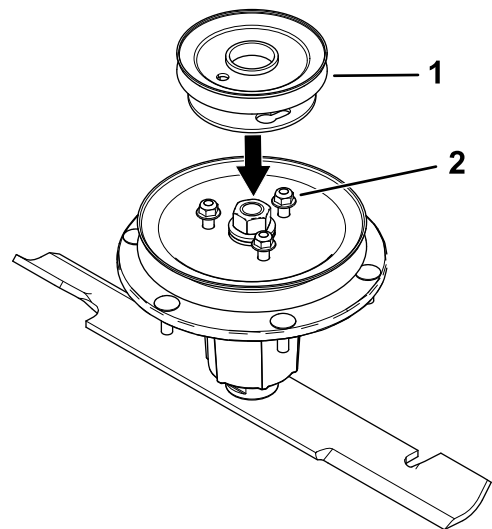

Figure 11
6. Align the new pulley assembly so that the openings fit over the nuts (Figure 11).